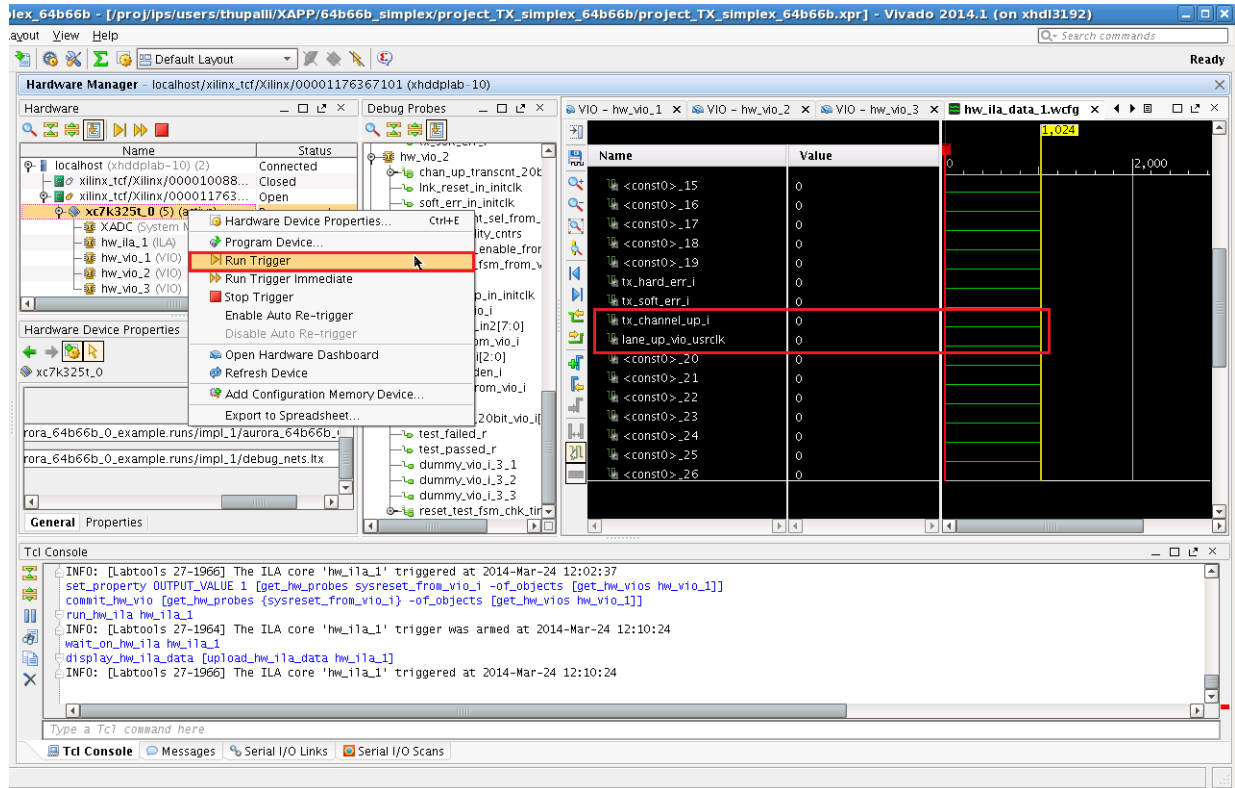

Figure 27: Reset Signal Results in Waveform
3. Click the waveform display tab and observe the results of the reset signal shown in Figure 27.